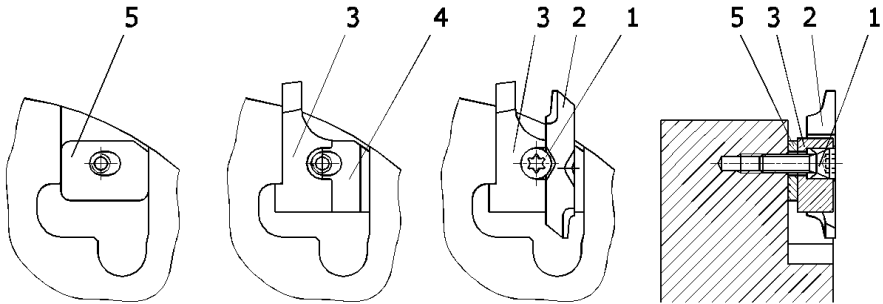

Fig.1
(See Fig. 1)
2. Loosen the screw (1) with the Torx key and remove it completely from the knife seat.
3. Remove the knife (2) from the knife seat.
4. Clean the knife seat (4) and all of the components that go with it. Be sure all clamping surfaces and components are free from dirt, oil, grease and water.
5. Carefully insert the reversed or new knife (see Fig 1).
3. Remove the knife, chip limiter and shim (if the shim exists) (5) from the knife seat.
4. Clean the knife seat (4) and all of the components that go with it. Be sure all clamping surfaces are free from dirt, oil, grease and water.
6. Carefully insert the new knife and the corresponding chip limiter into the knife seat (see Fig. 1). The correct chip limiter is marked with the corresponding number of the knife plus "PA" or "PI" at the end (for example KF216140PA or KF216140PI).